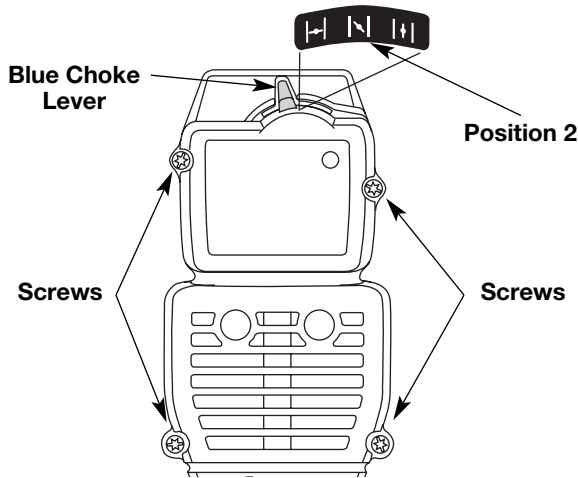

Fig. 23
- Remove the four (4) screws securing the air filter/muffler cover (Fig. 23). Use a T-20 Torx bit screwdriver.
2. Insert the four (4) screws into the holes in the air filter/muffler cover (Fig. 23) and tighten.